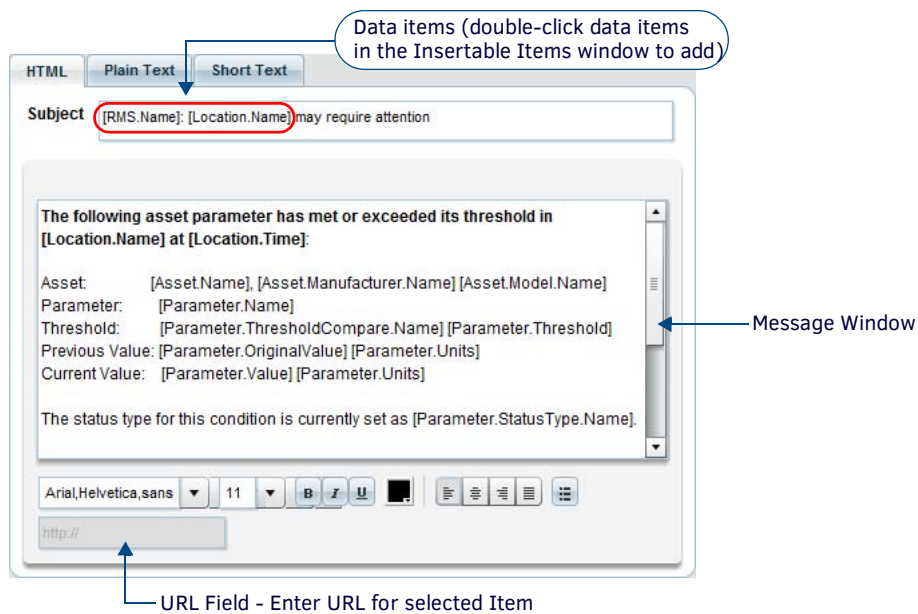

FIG. 387 Modify Template Settings dialog - Message Window (HTML)
- If **HTML** is selected, a set of text formatting tools as well as a URL field is provided (FIG. 387):